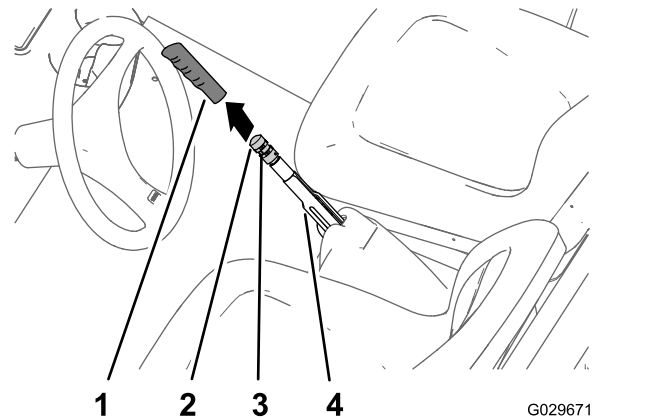

Figure 62
1. Remove the handgrip from the parking-brake lever (Figure 62).
2. Loosen the set screw securing the brake-adjustment knob to the parking-brake lever (Figure 62).
3. Rotate the brake-adjustment knob until you reach a force of 133 to 156 N (30 to 35 lbf) to engage the parking-brake lever (Figure 62).
4. Tighten the set screw and install the hand grip (Figure 62).
2. Loosen the set screw (Figure 62) securing the brake-adjustment knob to the parking-brake lever, disengage the parking brake, and loosen the brake-adjustment knob.
- C. Rotate the brake-adjustment knob (Figure 62) until a force of 133 to 156 N (30 to 35 lbf) is required to engage the parking-brake lever.
- Tighten the set screw and install the handgrip (Figure 62).
5. Rotate the brake-adjustment knob (Figure 62) until a force of 133 to 156 N (30 to 35 lbf) is required to engage the parking-brake lever.